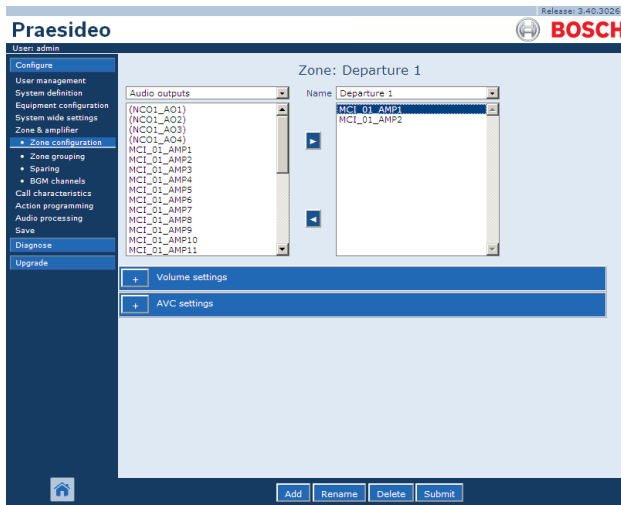

figure 45.7: Delete zone, step 1
- 1 Go to *Configure > Zone & Amplifier > Zone configuration*. A screen similar to the one in figure 45.7 appears.